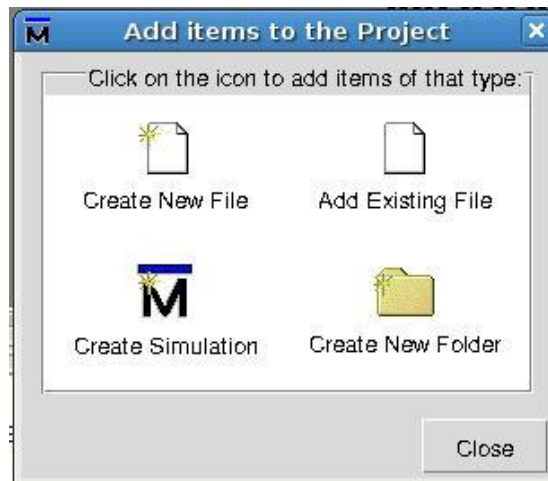
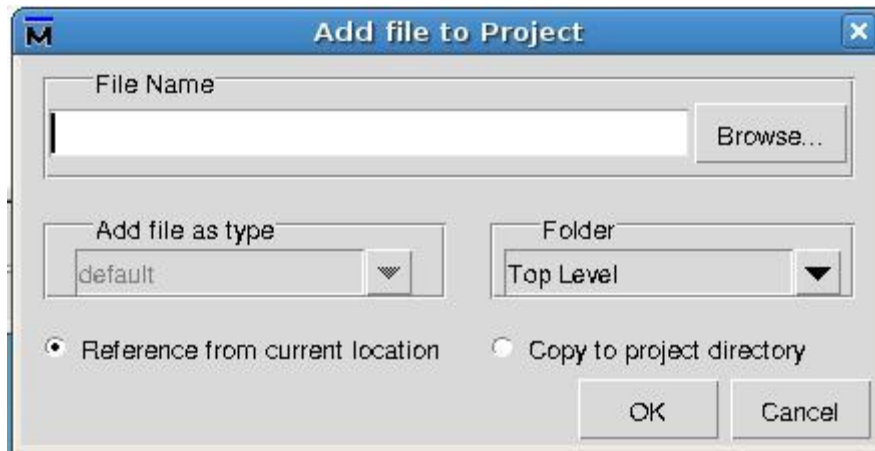
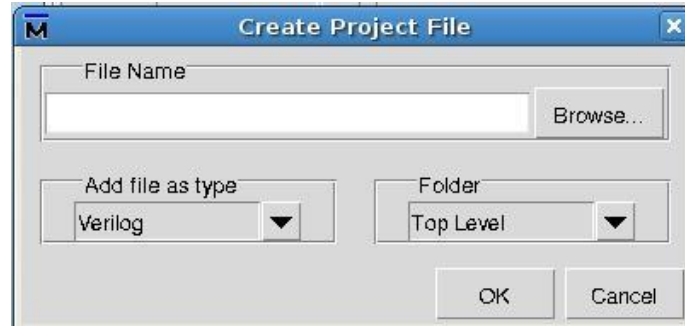

Figure 2-2: Add items to the Project window
Figure 2-3: Add File dialog box
Figure 2-5: Create File dialog box
When you clicked **OK**, the window in Figure 2-2 appeared. Click **Add Existing File**. The dialog box as in Figure 2-3 appears.
- 1.) On the dialog of Figure 2-2, click **Create New File**. The dialog box of Figure 2-5 will appear.
- 3.) Right Click in the “Project Tab” and select “Add to Project” ➔ “New File”. This will bring up a new file dialog similar to Figure 2.5 above.